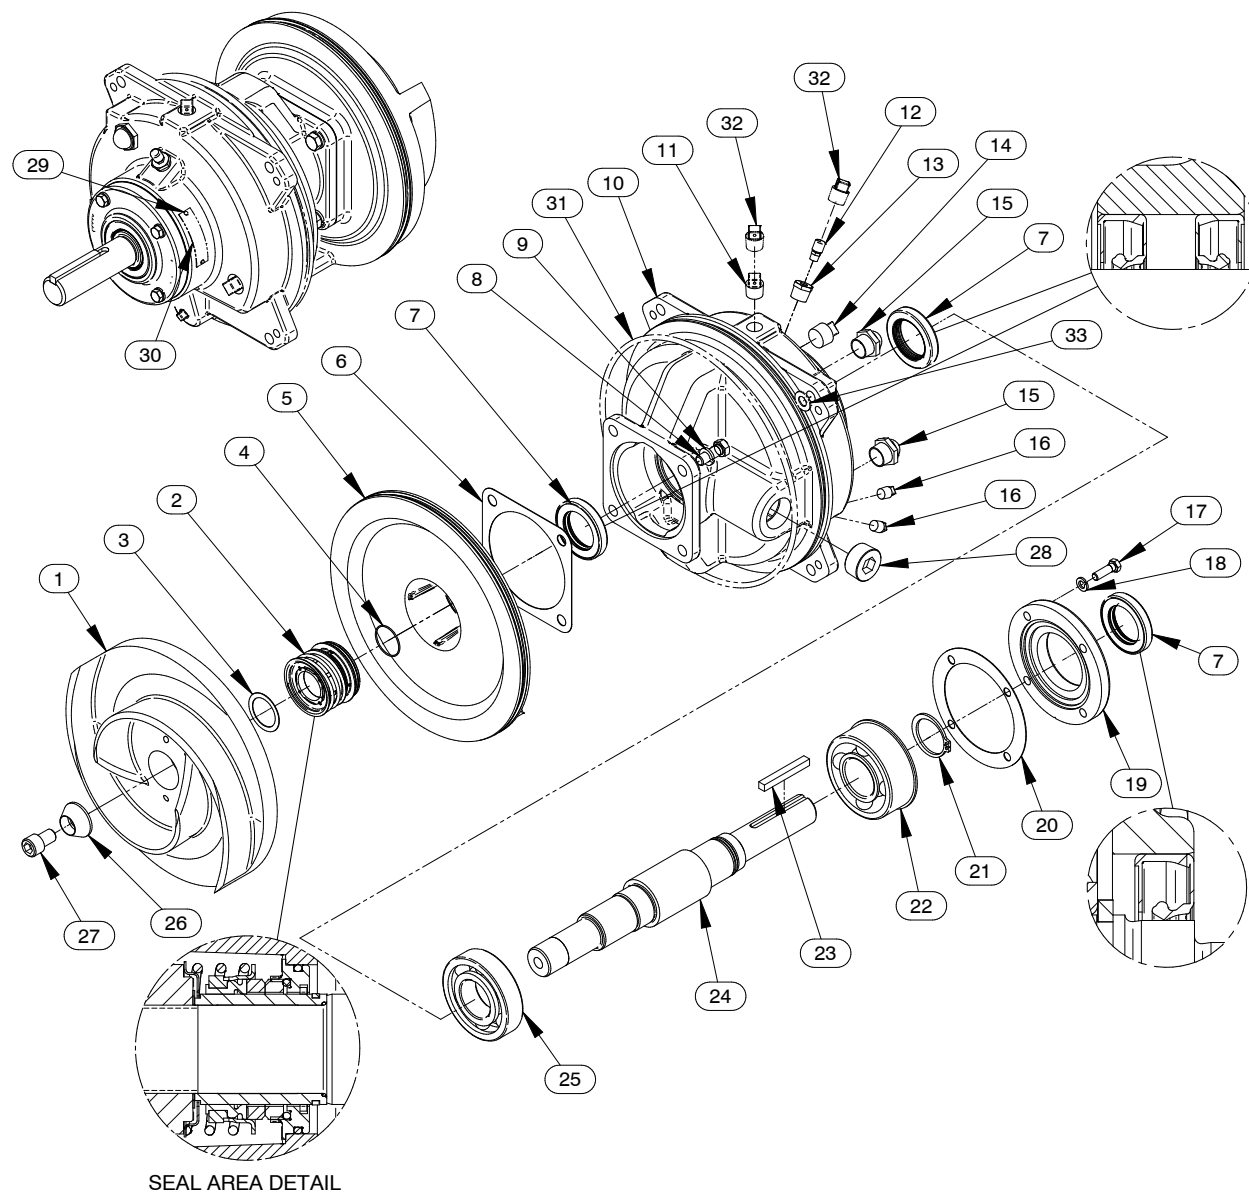

Figure 2. Repair Rotating Assemblies
### (Figure 2)
*To install the tool, remove the vented plug (11, Figure 2) from the bearing housing, and screw the longest length of pipe into the vent hole until fully engaged. Install the tee, and screw the handles into the tee. Use caution when lifting the rotating assembly to avoid injury to personnel or damage to the assembly.*
*Remove the bearing housing O-ring (31, Figure 2).*